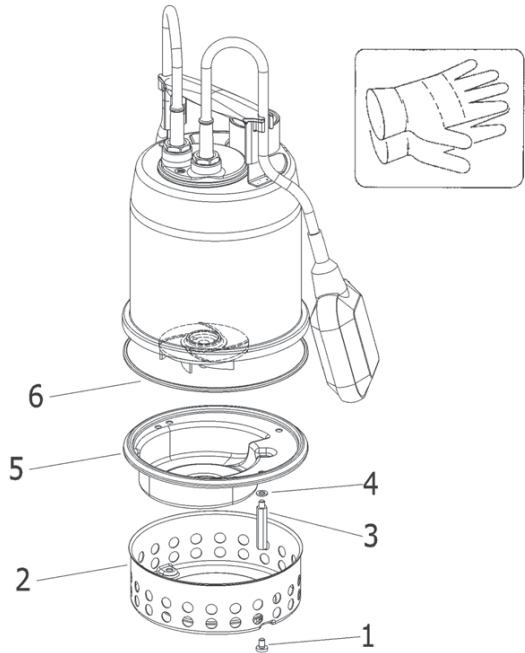

FIG. 9 • BEST 2-3-4-5
7.2. ELEKTROPUMPE BEST 2-5 (ABB. 9)